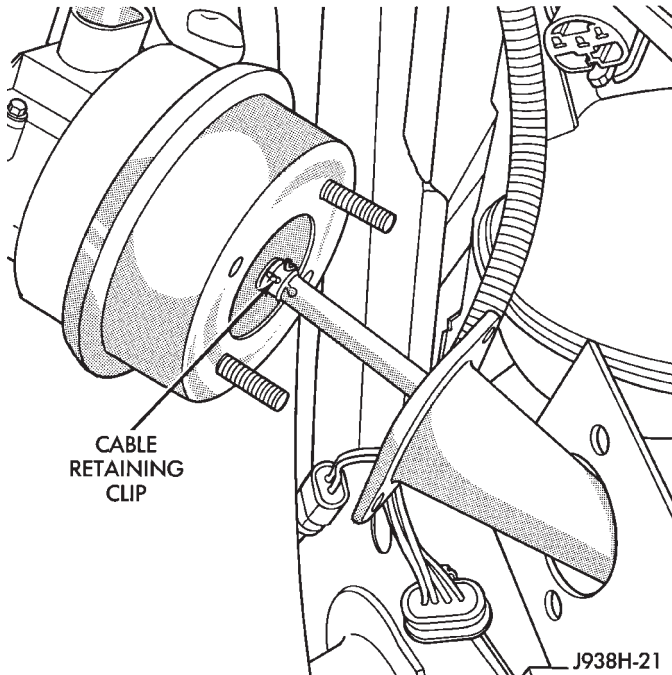

Fig. 9 Servo Cable Remove/Install
- (1) Disconnect battery negative cable.
- (2) Disconnect vacuum hose at servo.
- (3) Remove 2 nuts on servo cable sleeve.
- (4) Pull speed control cable away from servo to expose cable retaining clip (Fig. 9).